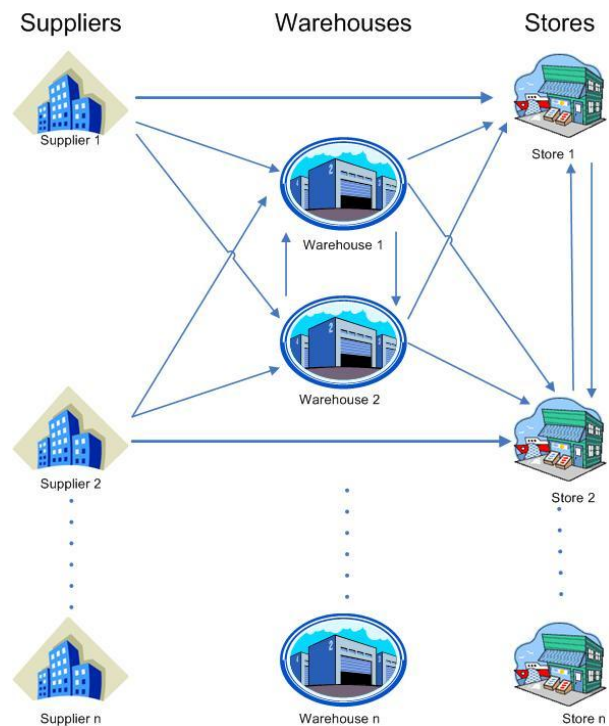

Figure 1.1
- **Multi location setup** AGR Inventory Optimiser has a functionality for companies with multilocation inventory systems. The system can be used to make order proposals for central warehouses but it can also be used to make purchases for stores from a central warehouse or supplier. The flow of goods can be multidirectional. Goods can flow in various ways from supplier to warehouse, from warehouse to stores or between warehouses or even between stores etc. Figure 1.1 illustrates this.